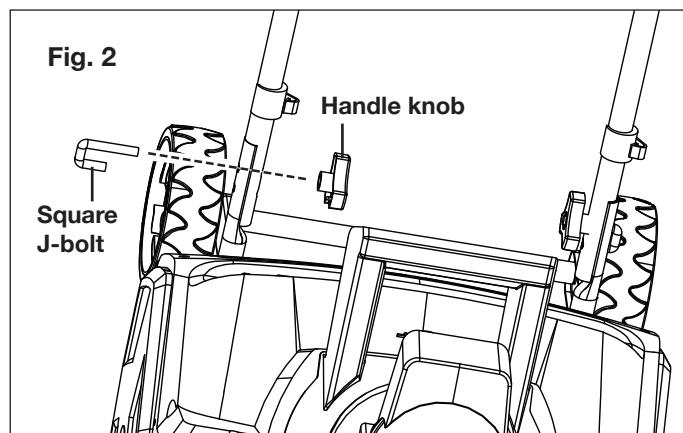

Fig. 2
2. Align the holes in the bottom of the middle handle assembly with those in the lower handle (Fig. 2).